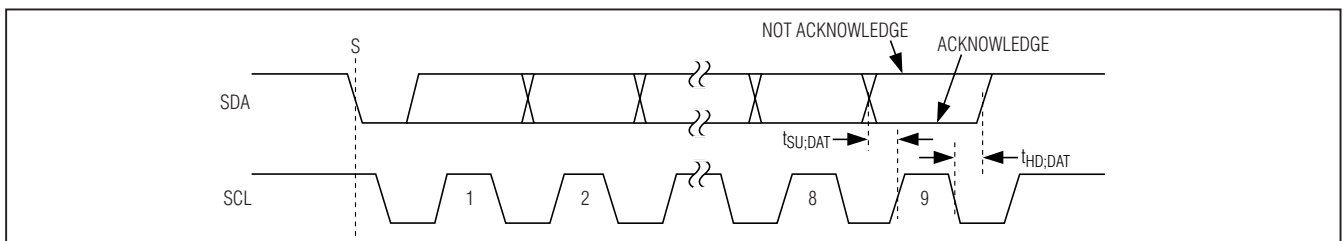

Figure 9. Acknowledge Bits
Both the master and the MAX8660/MAX8661 (slave) generate acknowledge bits when receiving data. The acknowledge bit is the last bit of each 9-bit data packet. To generate an acknowledge (A), the receiving device must pull SDA low before the rising edge of the acknowledge-related clock pulse (ninth pulse) and keep it low during the high period of the clock pulse (Figure 9). To generate a not acknowledge (NA), the receiving device allows SDA to be pulled high before the rising edge of the acknowledge-related clock pulse and leaves it high during the high period of the clock pulse.